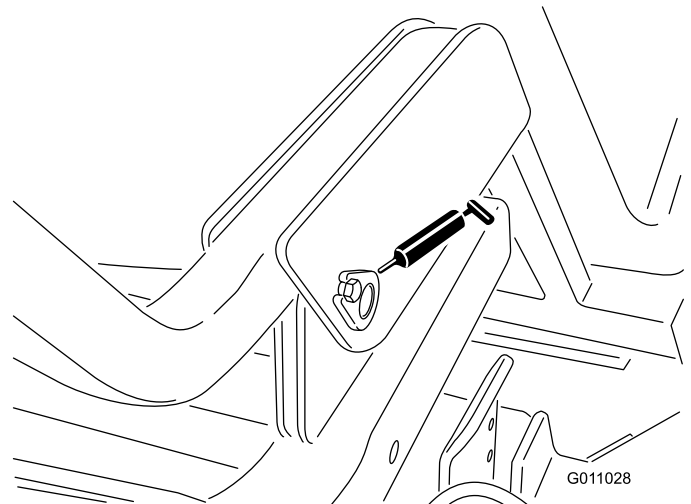

Figure 35
- Hopper pivot (lower) (2) (Figure 35).